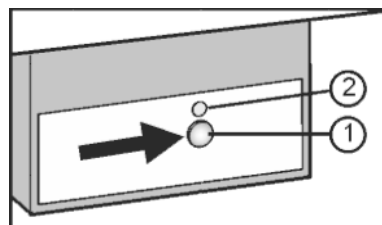

Fig. 16
- ▶ Press the On/Off button Fig. 16 (1) so that the LED Fig. 16 (2) shines.